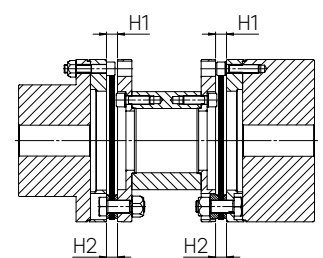

Figure 7
During assembly of each 6 or 8 screws (5) and washers (6) or/and each 6 or 8 screws and nuts (7) (following case) and on each side, slip one « axial limiter short » between the DP flange (1.1) and the sandwich flange (1.3) of the pack sub-assembly (1) and one « axial limiter long » in each hole of the DP flange (1.1) (fig. 7). Tighten the screws (5) or (7) uniformly (tightening torque T5 Nm and all key size (s mm)).